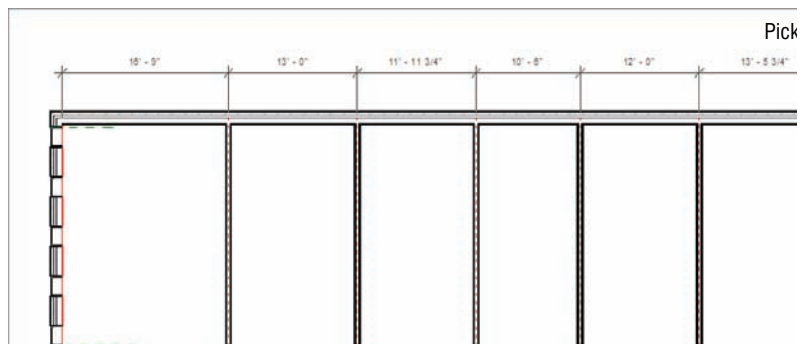

FIGURE 5.31 Picking a point away from the last dimension to place the string
4. Placing a dimension in Revit is a little awkward, but you will get the hang of it. You need to pick a point away from the last dimension in the string, as shown in Figure 5.31, almost as if you are trying to pick another item that is not there. When you do this, the dimension will be in place.